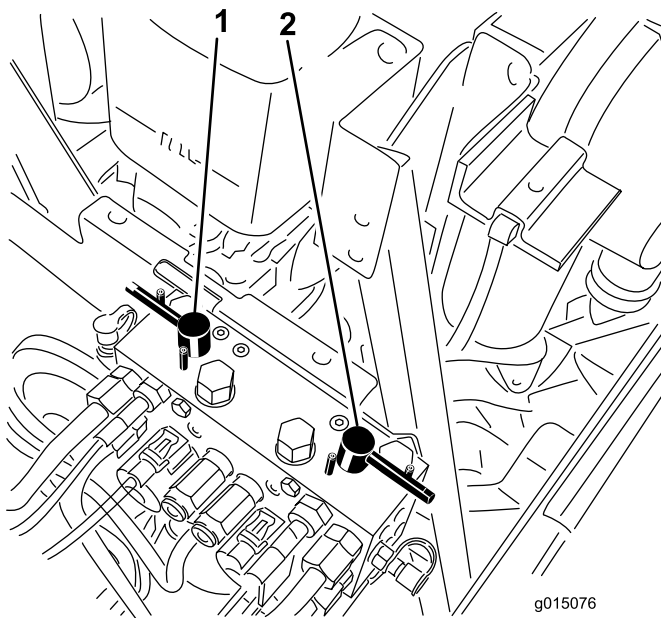

Figure 77
4. Select either front, rear or both backlap levers to determine which units to backlap (Figure 77).